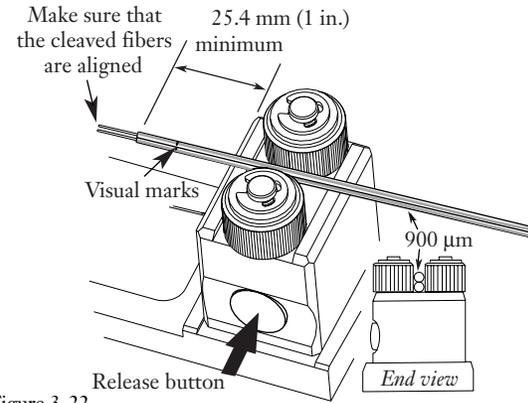

Figure 3-22
3.7-2 Press the release button on the fiber index, and place the two fibers between the rollers (Figure 3-22). Make sure the fibers are fully seated between the rollers, and the cleaves remain aligned.